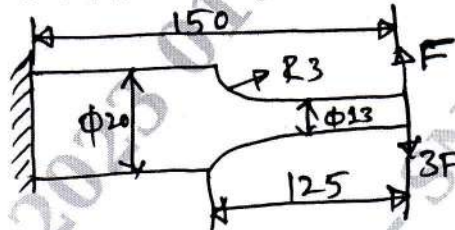

Fig.Q3(b)
- b. A cantilever beam made of cold drawn carbon steel ( $\sigma_u = 550$  MPa,  $\sigma_y = 470$  MPa,  $\sigma_{-1} = 275$  MPa) of circular cross-section is subjected to load which varies from  $-F$  to  $3F$ . Determine the maximum load that this member can withstand for an infinite life using a factor of safety of 2. [Refer Fig.Q3(b)] (12 Marks)